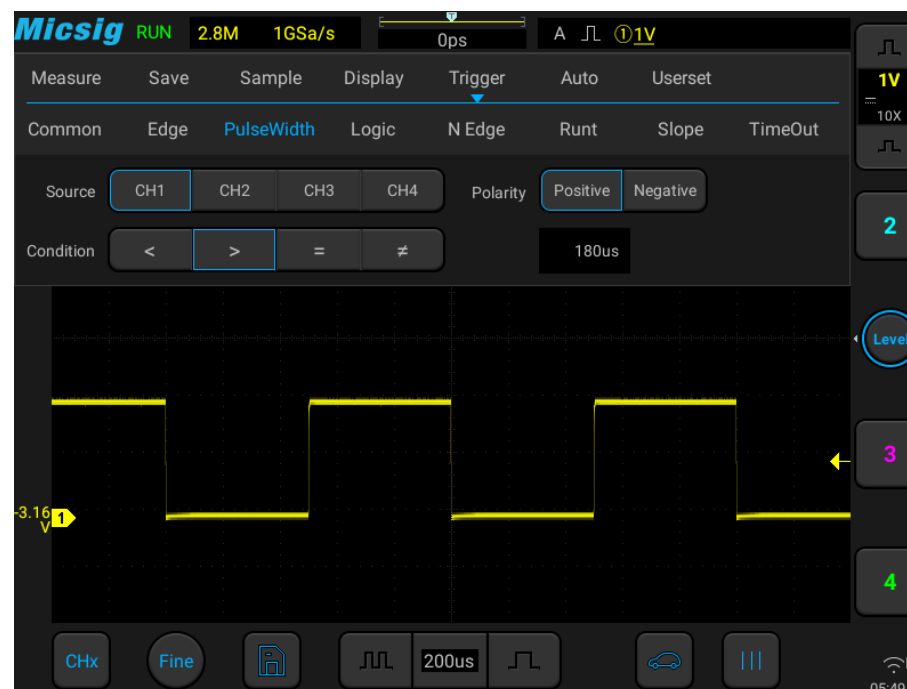

Figure 7-14 Pulse Width Trigger Setting Menu
- 1) Tap “Trigger” on the main menu to open the trigger menu, select the pulse width trigger in the trigger type, and set the pulse width trigger as follows, as shown in Figure 7-14: